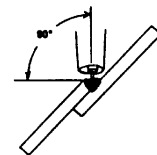

Figure 2.5
3. The electrode should be positioned at a 90° work angle and a 25° to 30° drag angle to perform the weld. (See Figures 2.5 and 2.6.)